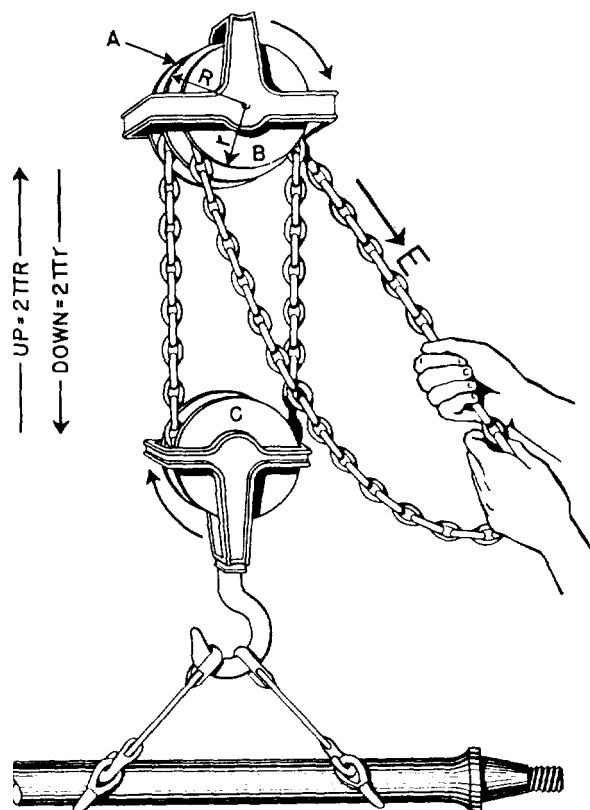

Figure 2-11.—A chain hoist.
To help you to understand the operation of a chain hoist, look at the one in figure 2-11. Assume that you grasp the chain (E) and pull until the large wheel (A) has